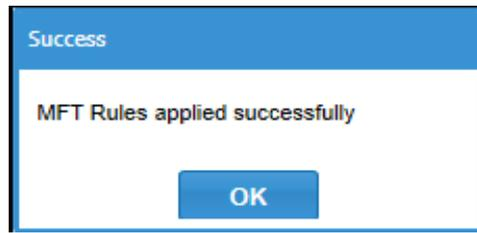

Figure 31 Confirmation box
6. If you are not asked for credentials, then a confirmation box appears, as shown in Figure 31. Click **OK**. Changes are saved on the Manage Device page.